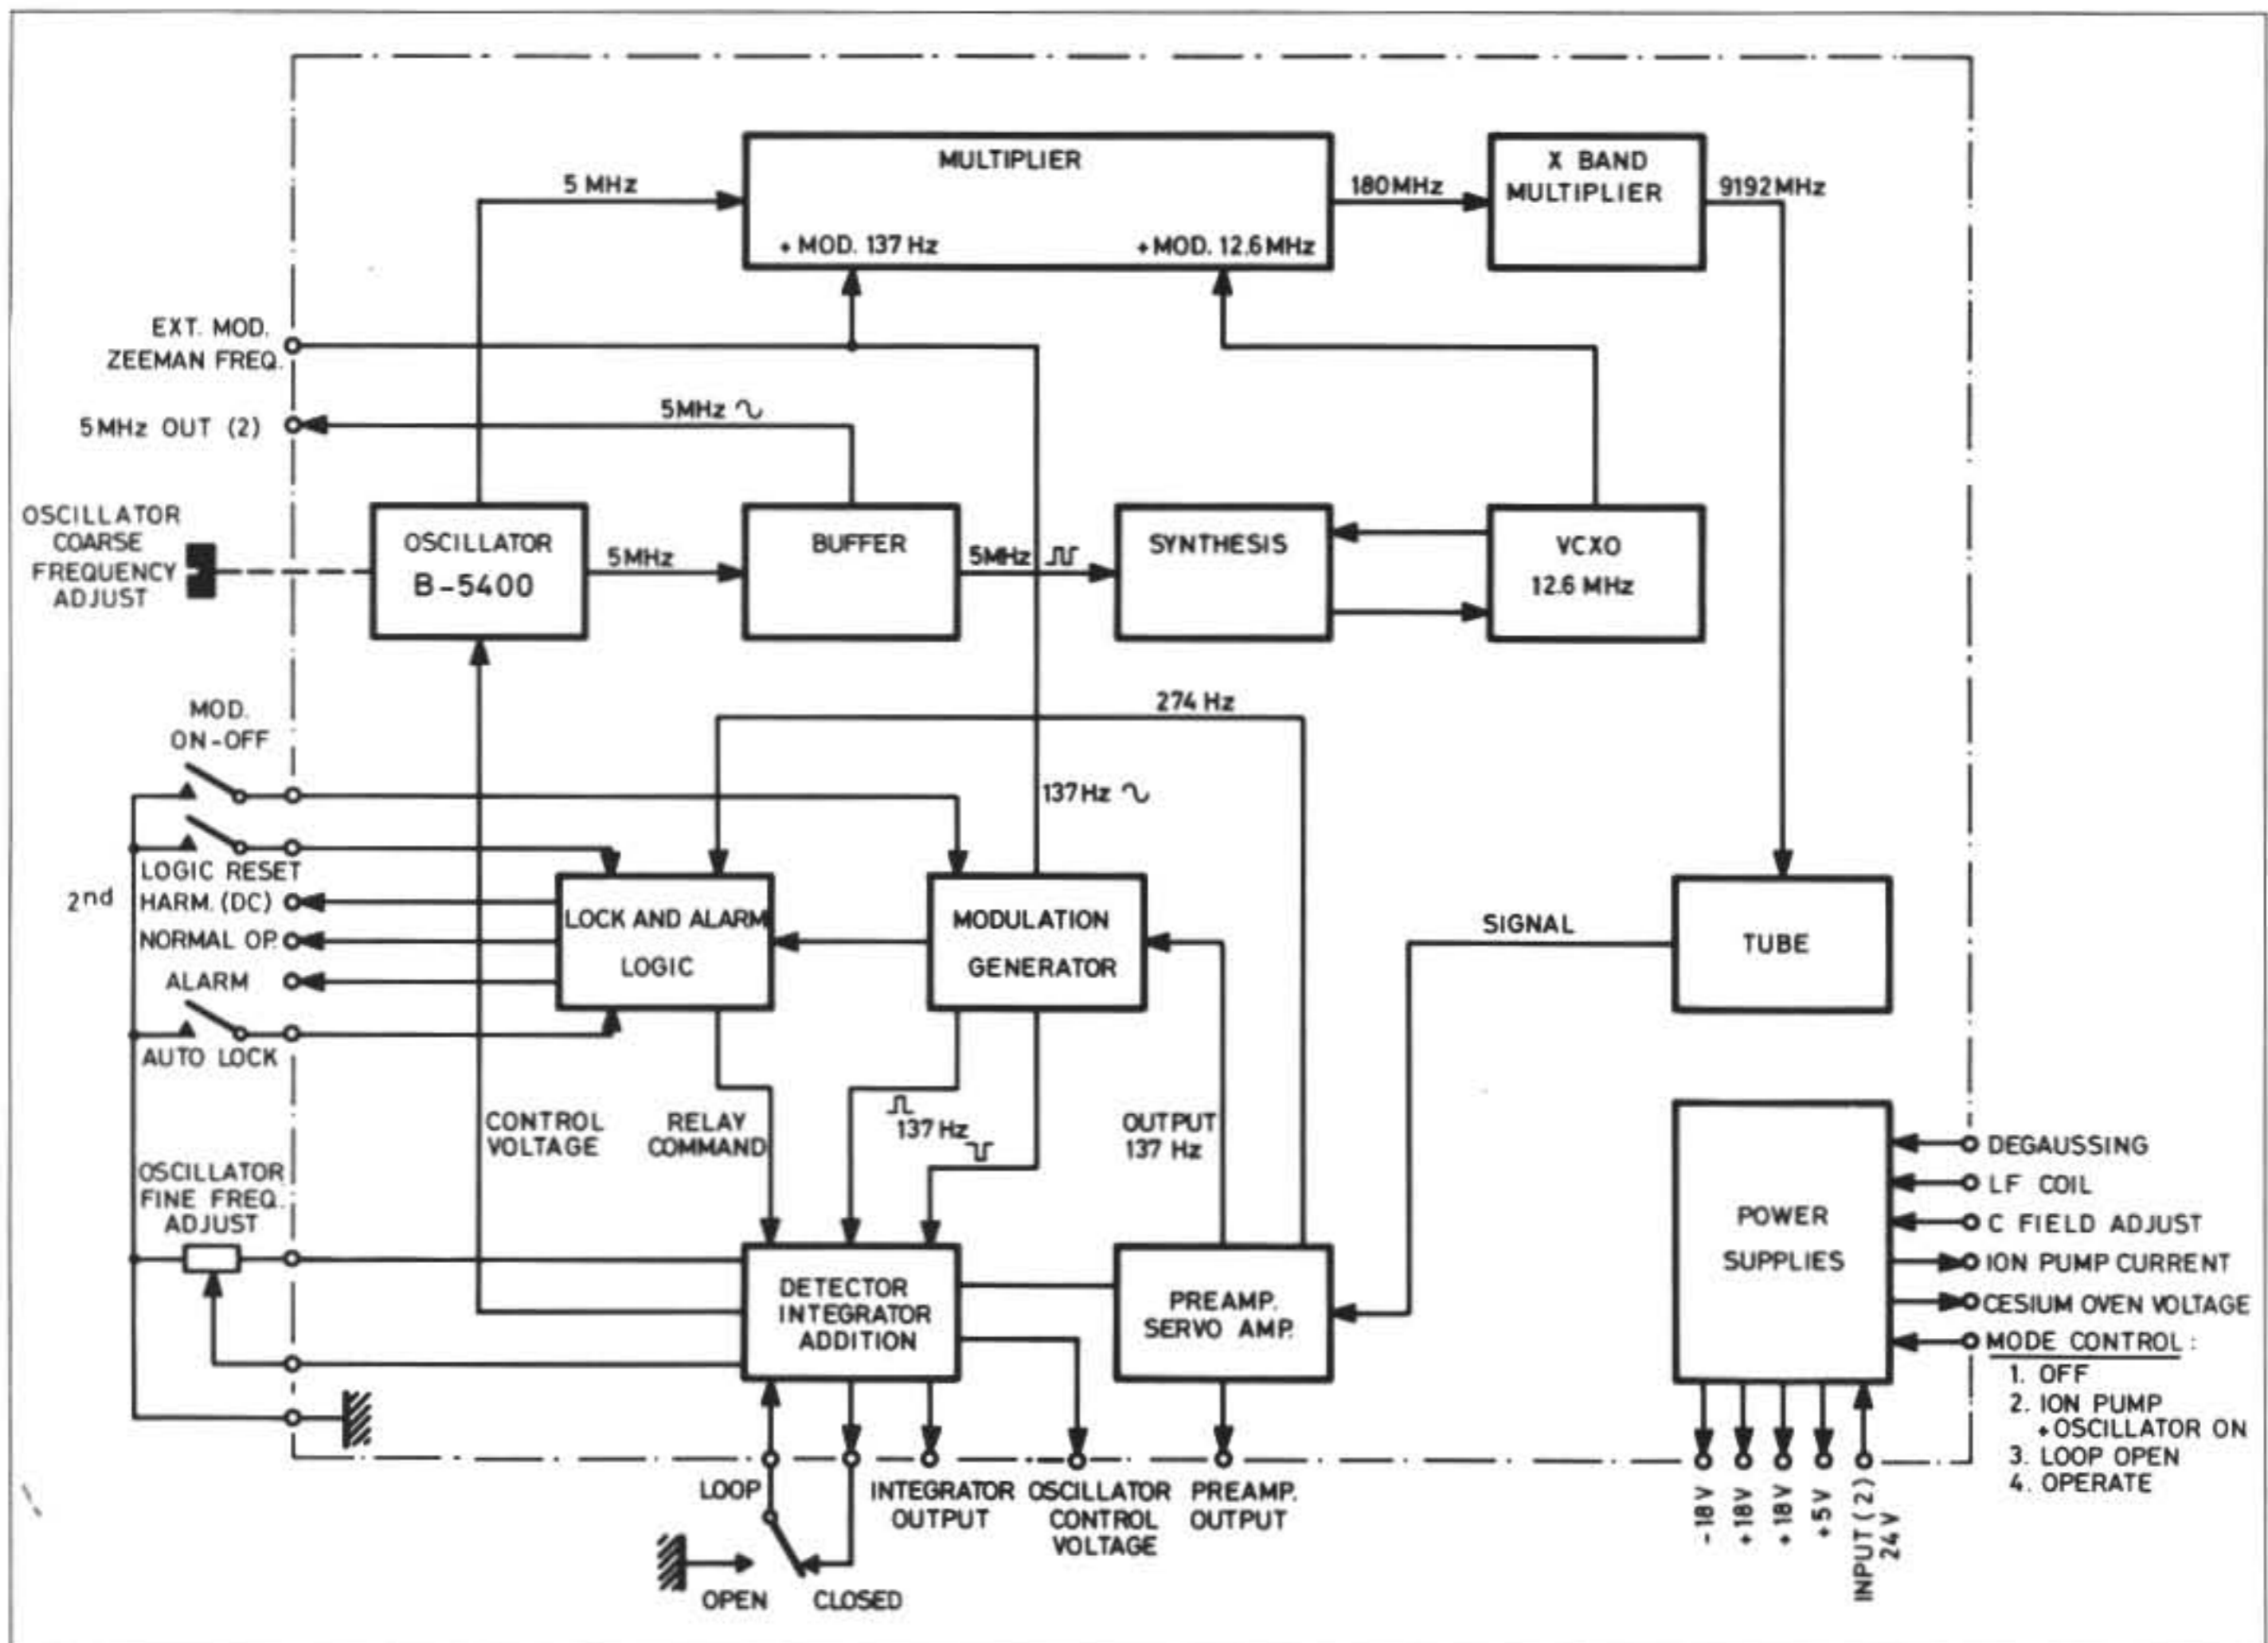

Fig. 4 Block diagram: 5 MHz Cesium Oscillator – Model 3000
To detect and use this transition frequency, which is both accurate and very stable in time, an electronic system is necessary. The excitation frequency of the tube is supplied, after multiplication, by a high-performance quartz-crystal oscillator whose frequency is regulated by the output signal produced by the tube. A diagram of the principle of the frequency standard thus formed is given in figure 4.
3.2. 5 MHz Cesium Oscillator – Model 3000 (figure 4)